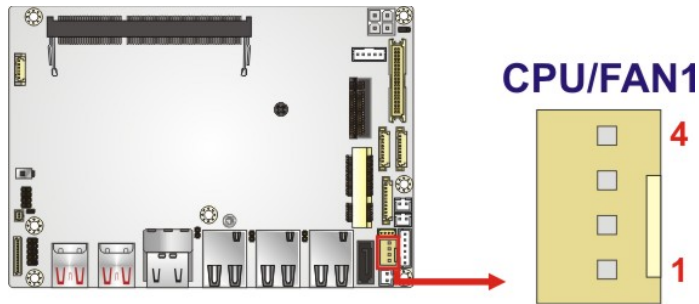

Figure 3-5: Fan Connector Location
- CN Location:** See **Figure 3-5**